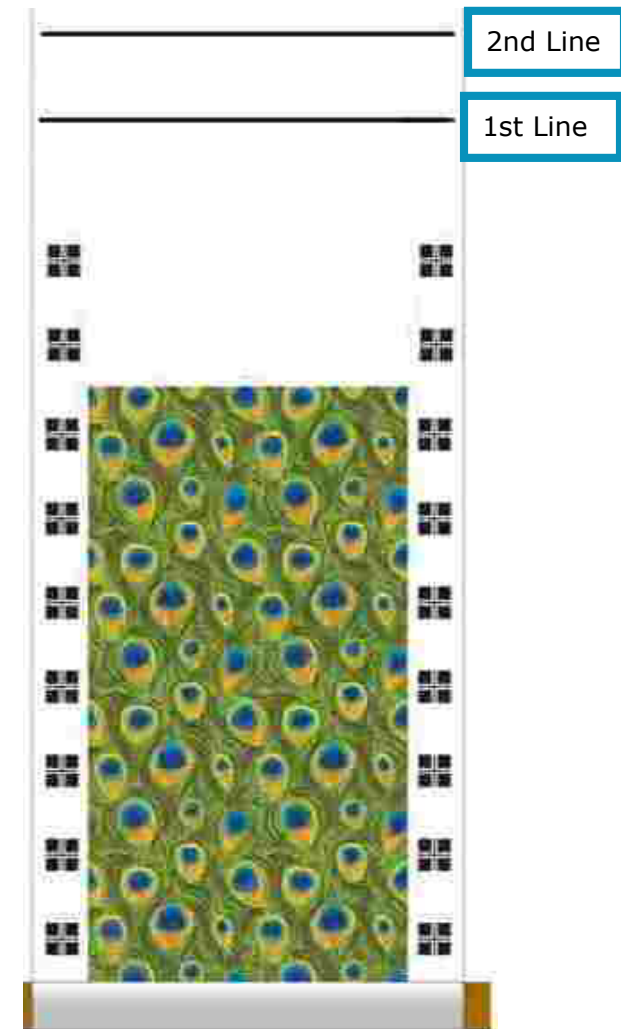

Figure 7-6
**Print Cutting line** – This line is printed at the end of side A, and marks where to cut the media, leaving sufficient margin for loading the media to the Printer to print Side B (2nd line), as shown in Figure 7-6.